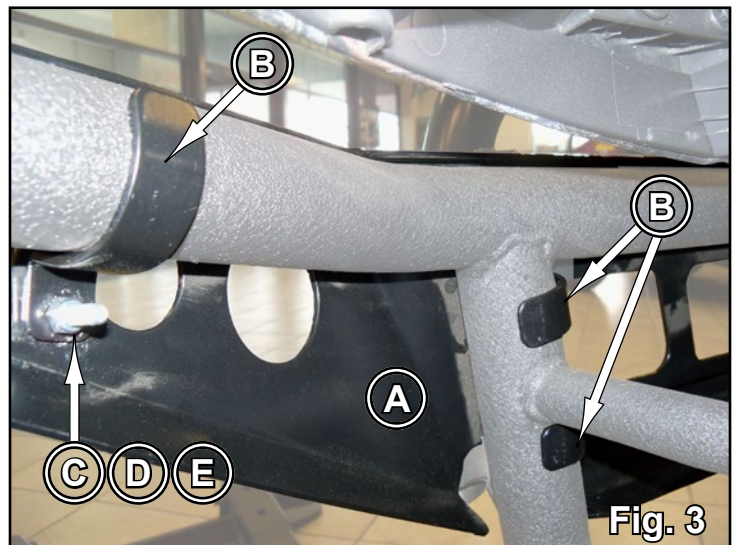

Fig. 3
3. Install assembly to machine. See Fig. 3.